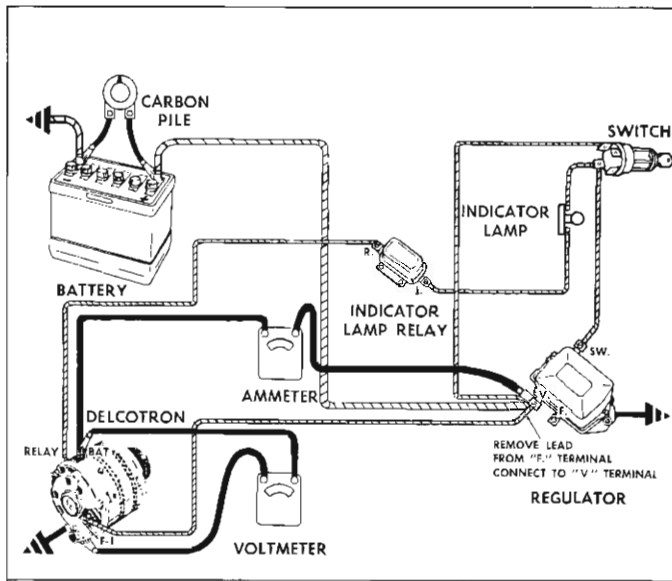

Fig. 12—Checking 6" Generator Output
- b. Remove lead from regulator "F" terminal and connect to regulator "V" terminal. Slowly increase generator speed, and check output (fig. 12). See Specifications, Section 16.